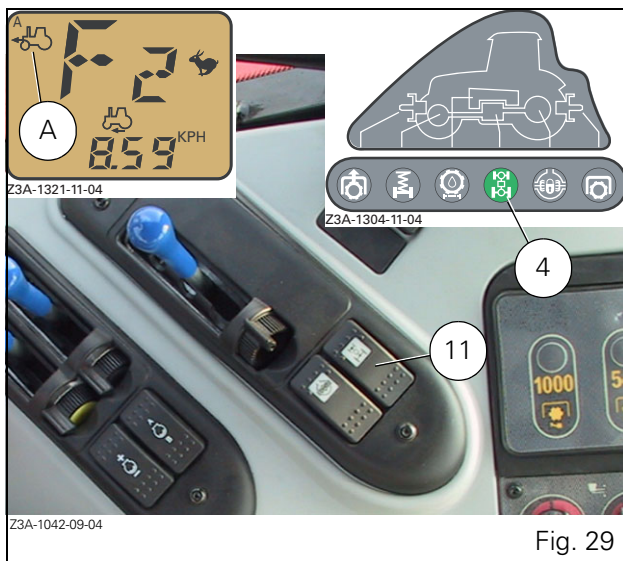

Fig. 29
At tractor start-up, the front axle is in automatic mode. To engage the front axle, press the switch (11 Fig. 29). The corresponding instrument panel indicator light comes on (4 Fig. 29) and the 4WD automatic mode symbol appears on the digital display (A Fig. 29).
To activate manual mode, first engage the front axle by pressing the switch (11 Fig. 29), then press this same switch again for 3 seconds. The indicator light (4) comes on and the front axle symbol in automatic mode disappears from the digital display.